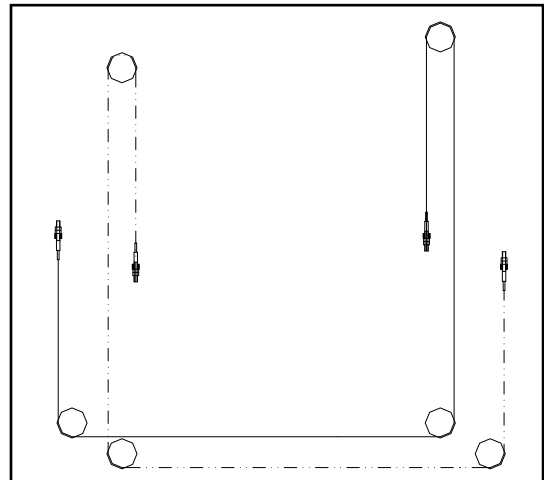

Fig. 29
- ◆ Install the balance cable according to **Fig. 29**. The cable also can be crossed from the hole on the board before the fixing of both columns.